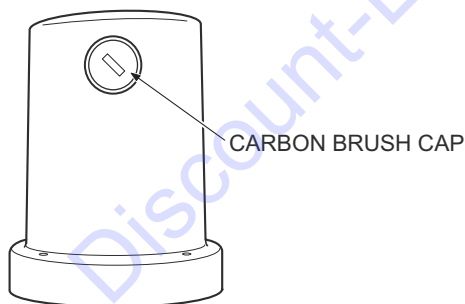

Figure 9. Replacing Carbon Brushes
2. Remove the rear panel and the bottom plate of the machine so that the outer frame of the motor is visible (Figure 9).